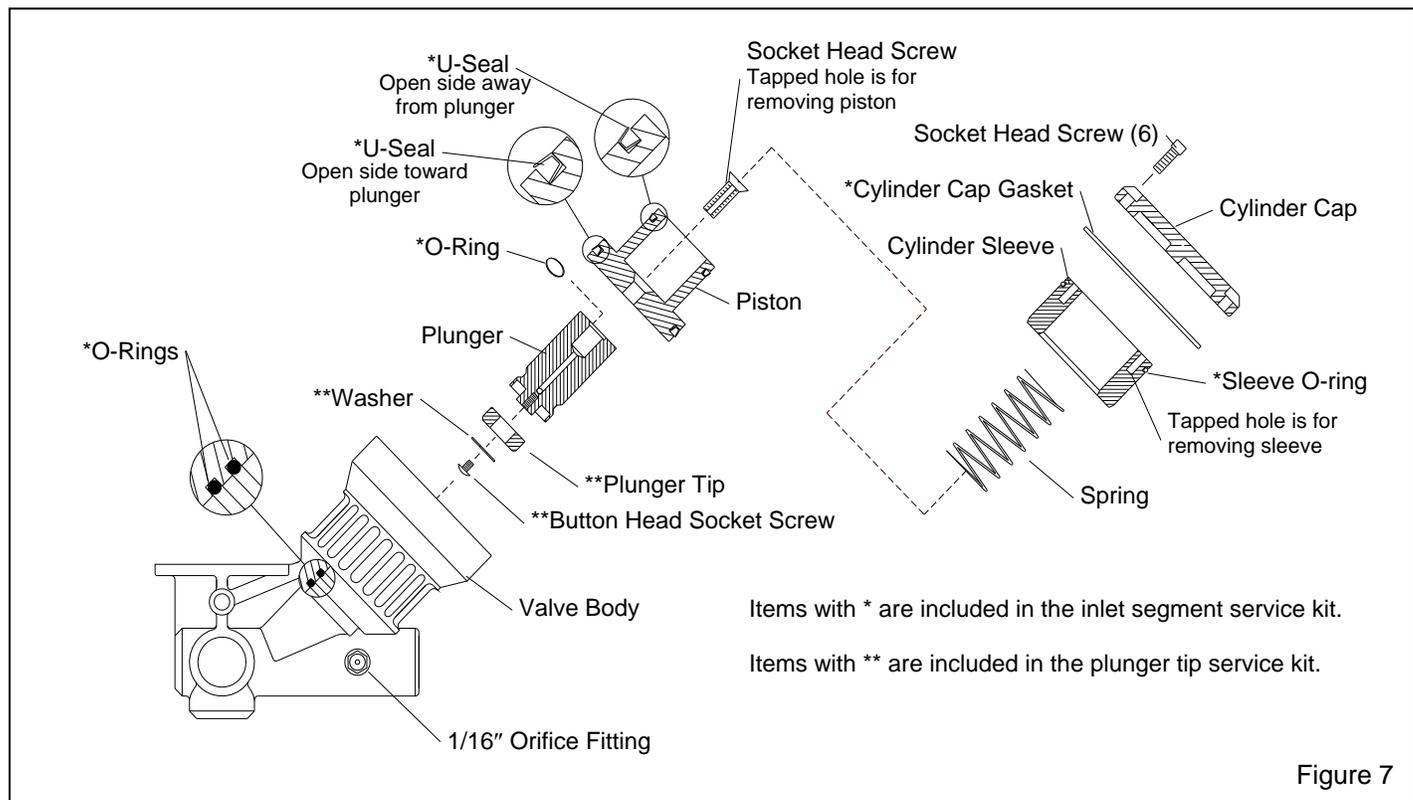

Figure 7
6.3 Millennium Valve Inlet Segment, Ref. Figure 7.
6.3.10 Place the u-seals into the grooves on the piston, the open side of the large seal faces the plunger, and the open side of the small one faces away from the plunger, as shown in Figure 7.
6.3.15 If fittings on the body were removed, make sure the 1/16" orifice fitting is threaded into the port as shown in Figure 7.